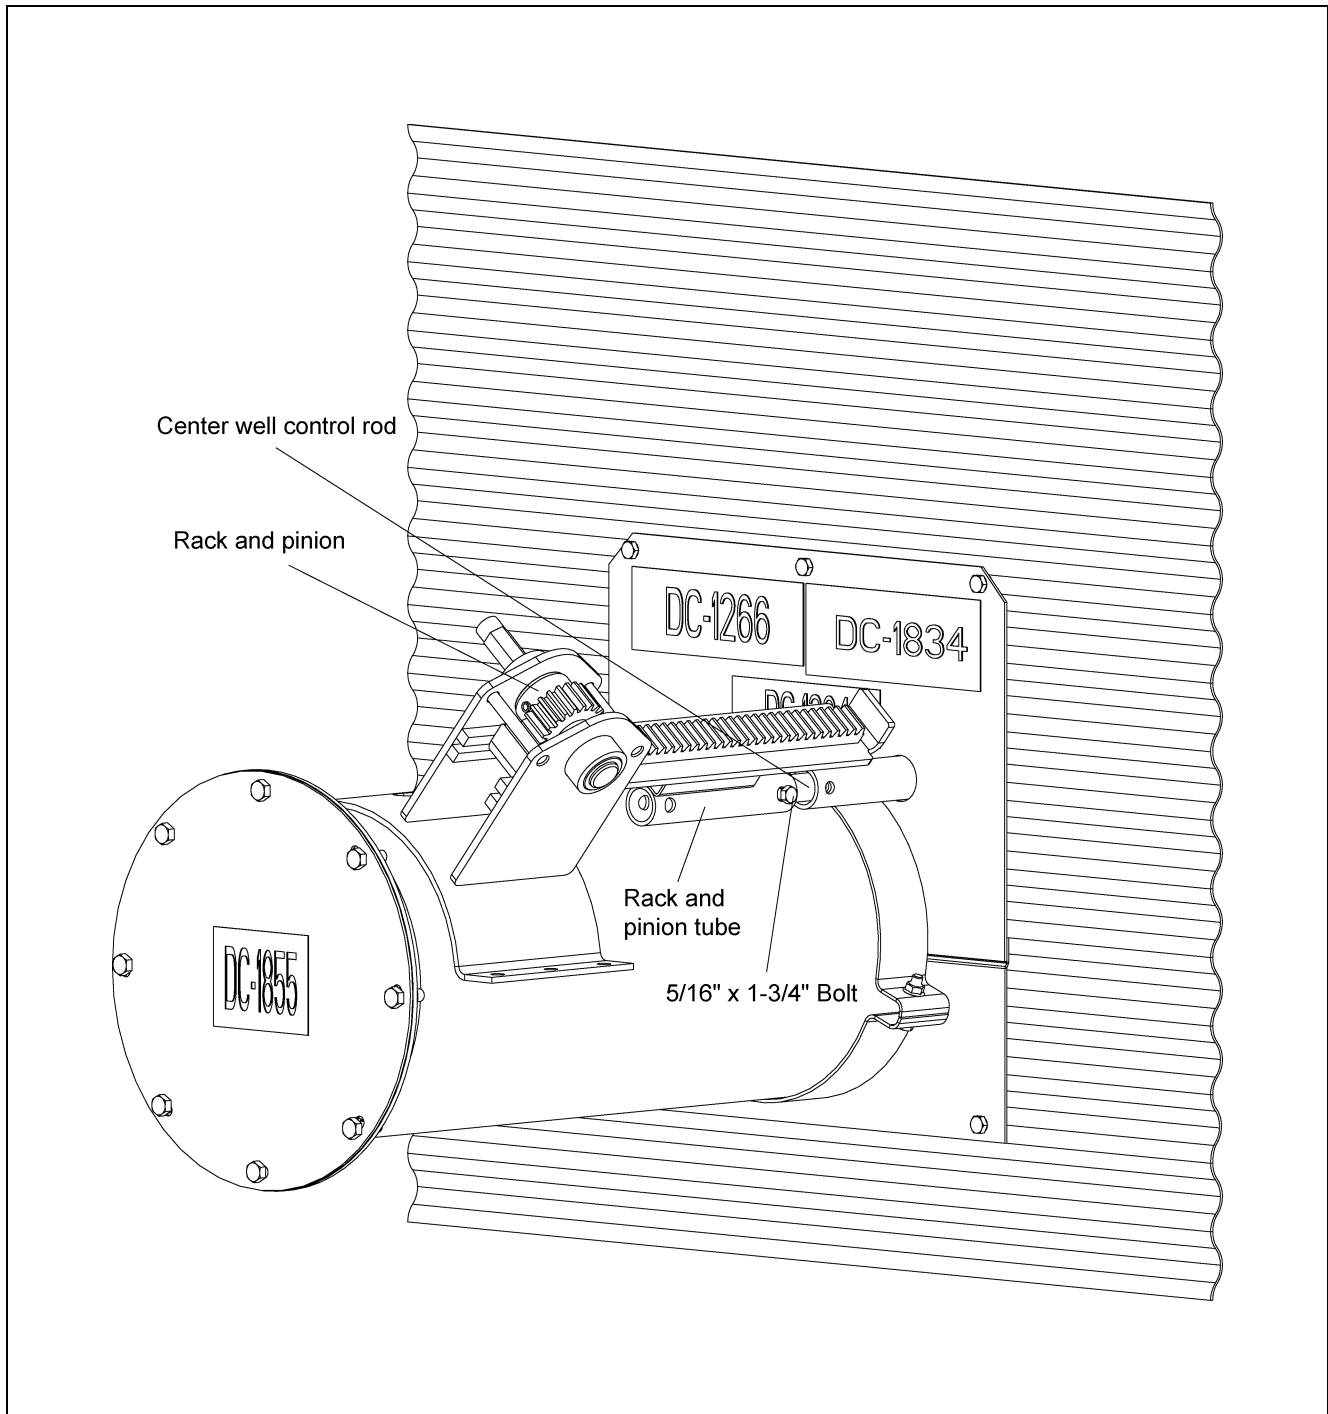

Figure 4P 8" and 10" Systems
2. Slip rack and pinion tube over center gate control rod and align holes, making sure rack and pinion is fully extended toward bin wall. (See Figure 4P.)
3. With rack and pinion resting on unload tube, and tube holes aligned, insert one (1) 5/16" x 1-3/4" bolt through the rack and pinion tube and center gate control rod. Fasten together with a nut. (See Figure 4P.)